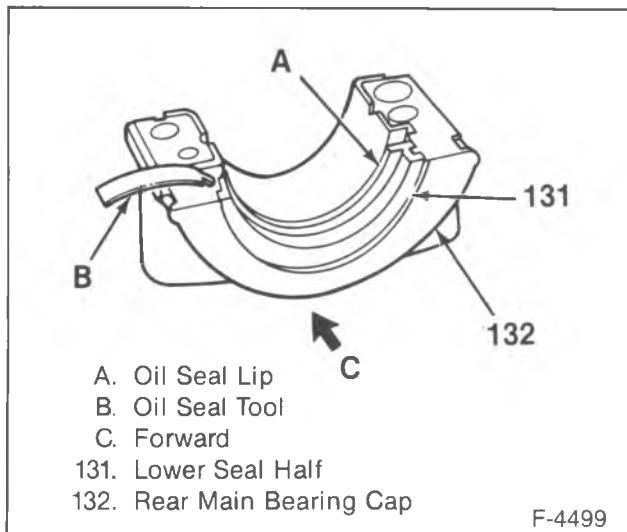

Figure 52—Crankshaft Rear Oil Seal Installation
- Lower seal (131) (figure 52).